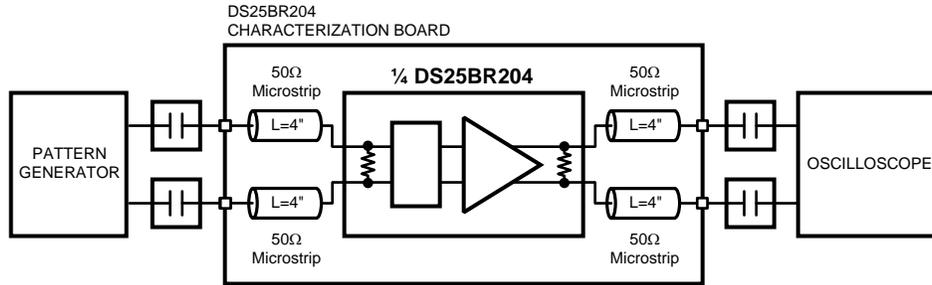

Figure 5. Jitter Performance Test Circuit
| JITTER PERFORMANCE WITH EQ = Off, PE = Off (3) (Figure 5)          |                                                                     |                                                                      |            |      |      |                   |